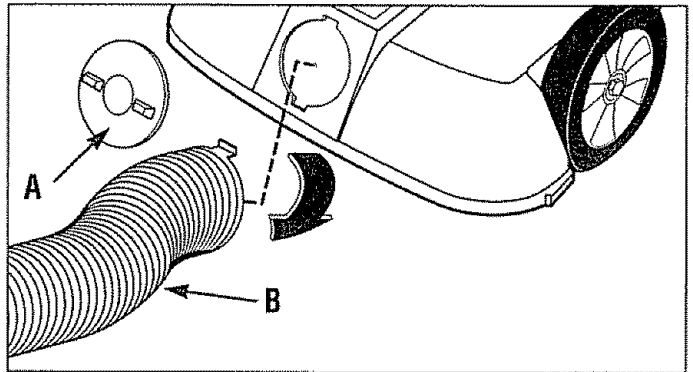

Figure 16: Remove vacuum inlet cap and install vacuum hose.
1. Remove the vacuum inlet cap (**A**, Figure 16) by twisting the cap counterclockwise approximately 1/4 turn until the bar on the cap is aligned with the arrow at the **REMOVE** position. Lift the cap off the inlet opening. **Do not misplace the vacuum inlet cap.**
2. Line up the tabs on the hose (**B**) with the slots in the vacuum inlet opening and insert the hose. Turn the hose approximately 1/4 turn clockwise until it is in the **LOCK** position. See Figure 16. (The hose support handle should now be on the top of the hose.)